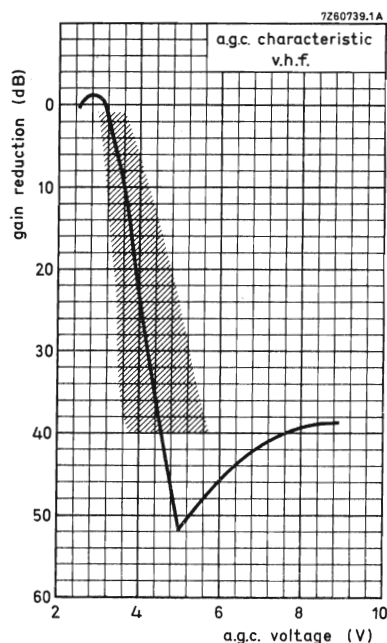

Fig. 5
A.G.C. voltage (Figs. 5 and 6)